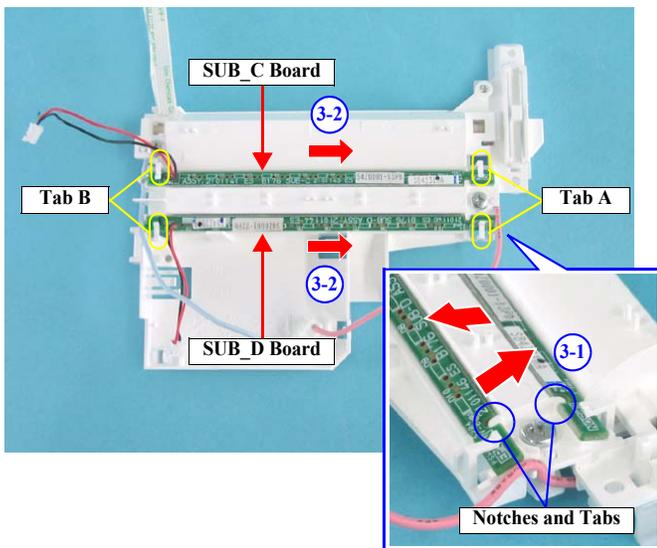

Figure 4-42. Removing the SUB_C Board and SUB_D Board
- When installing the SUB_C Board and SUB_D Board, match the notches and tabs as shown in Figure 4-42.